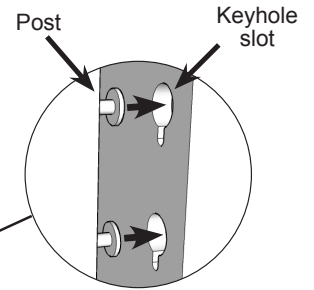

Figure 2
2. The arms attach to the back cushion using a post & keyhole system as shown in figure 2.